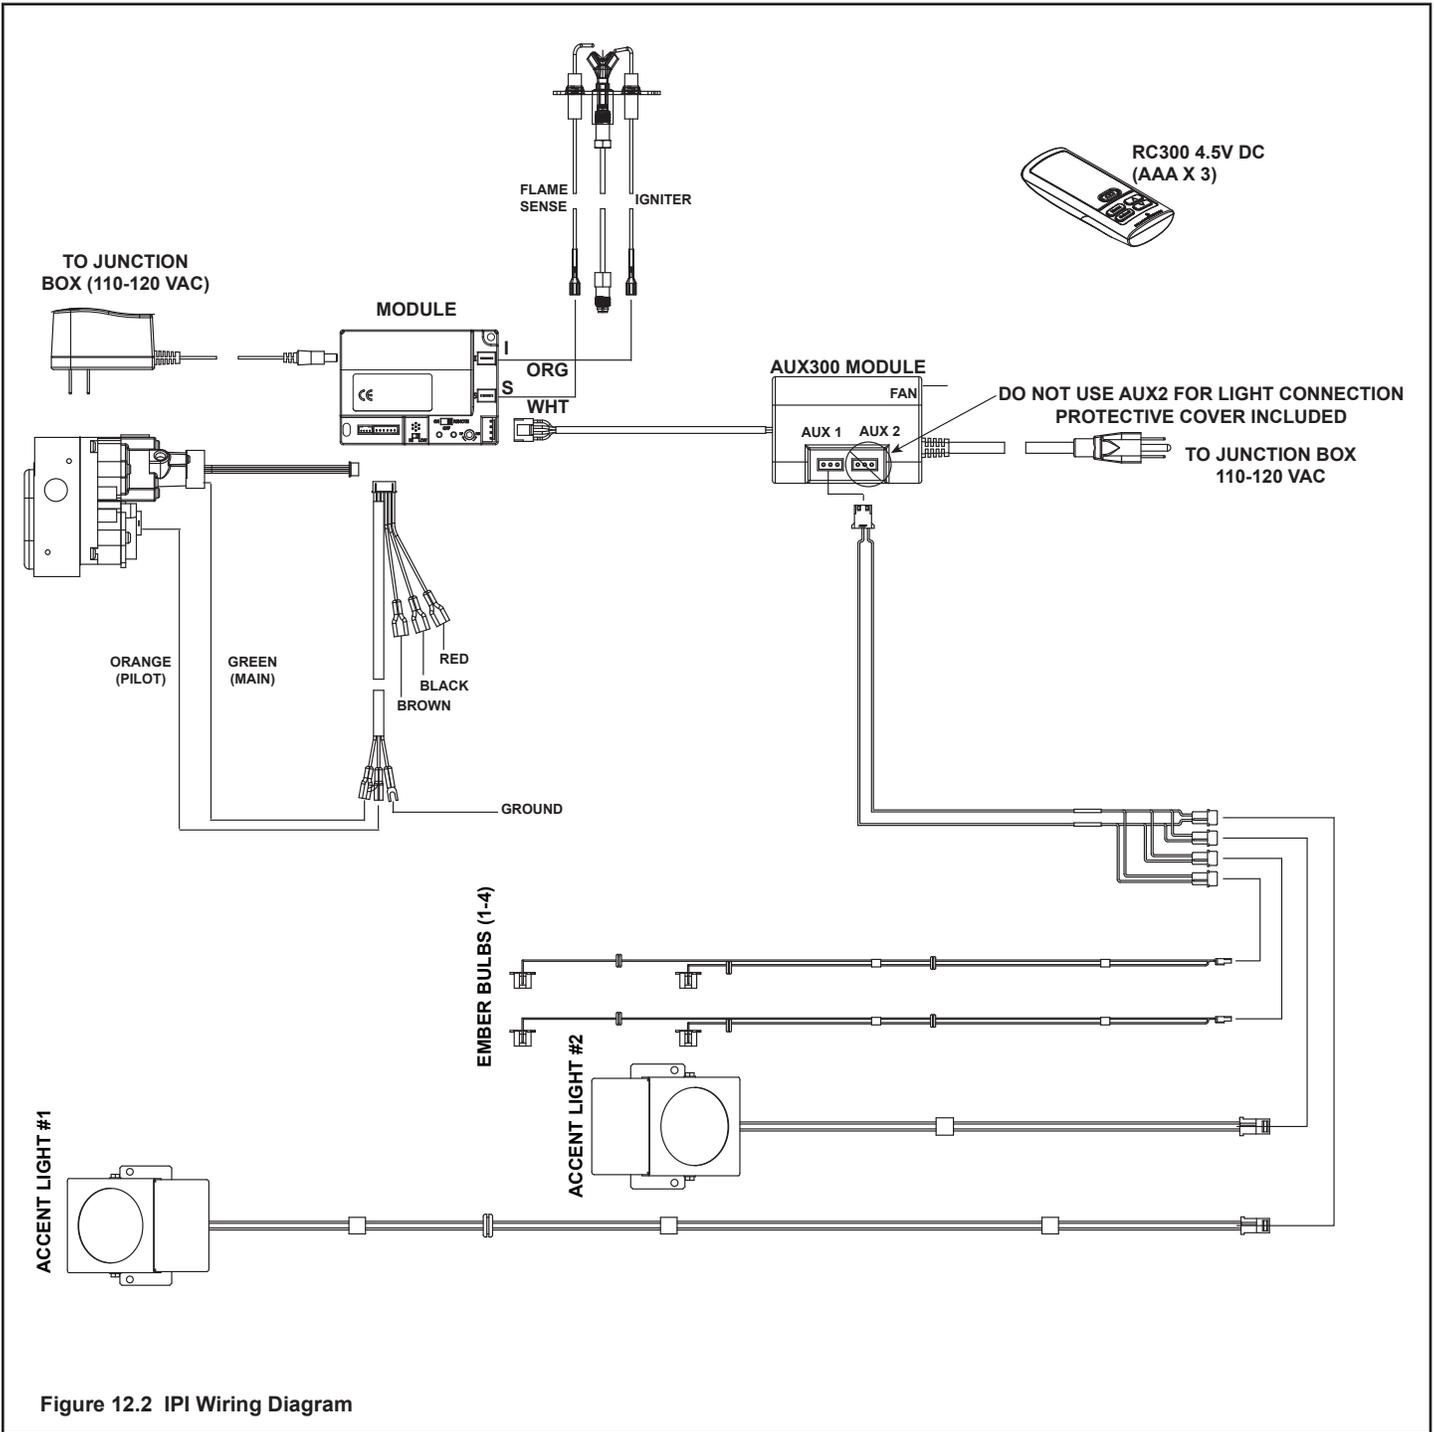

Figure 12.2 IPI Wiring Diagram
- Refer to Figure 12.2, IntelliFire™ Plus (IPI) Wiring Diagram.